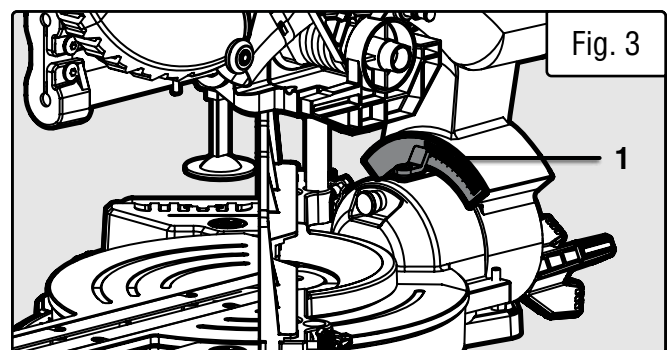

Fig. 3
3. Tilt the saw arm until the bevel angle indicator points to the desired angle on the bevel scale (Fig. 3 - 1).
2. Slide the saw arm to the back and tighten the slide lock knob (Fig. 3 - 2).